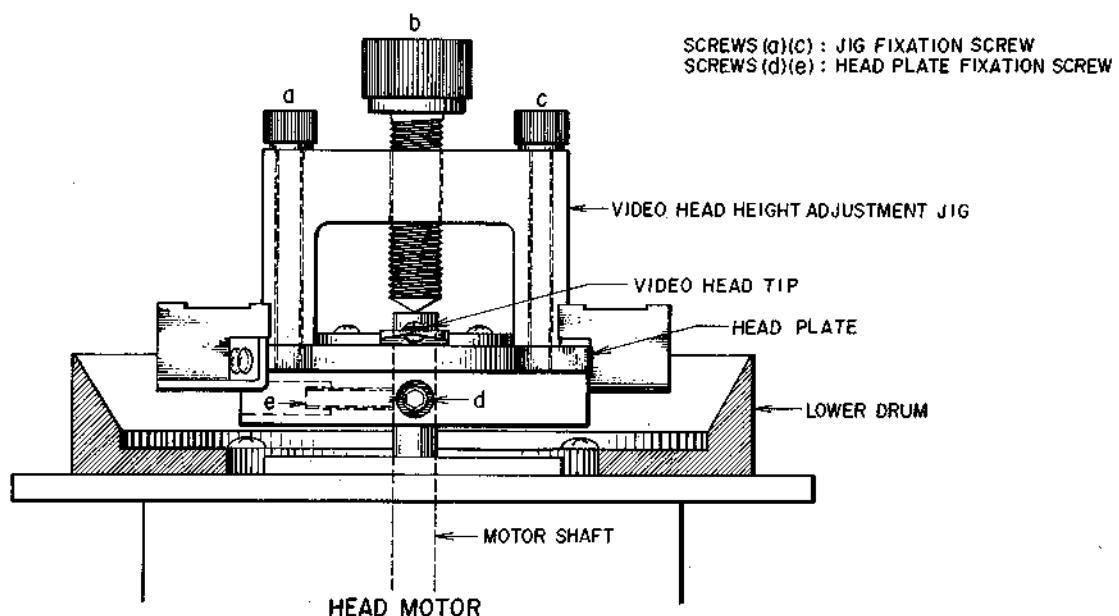

Fig. 7 Video Head Height Adjustment
- Fit the head height adjustment jig to the head plate (made for angle and protrusion adjustments). As per Fig. 7 and 8, fit head plate to upper part of head motor (Screw (b) of height adjustment jig should be at lowest position).
plate and fix the head plate to motor shaft at position at which the lower end of the head tip is $10\ \mu$ to $20\ \mu$ below the center line of microscope B (Refer to Fig. 7).